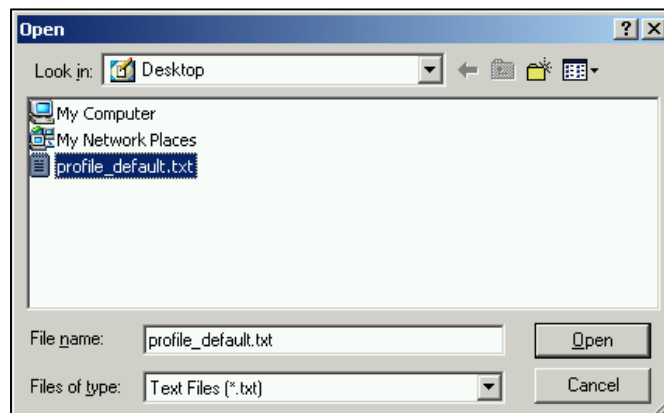

Figure 59 – 'Open' window
- 3 In the **Open** window (Figure 59), select the file you wish to load and click **Open**.